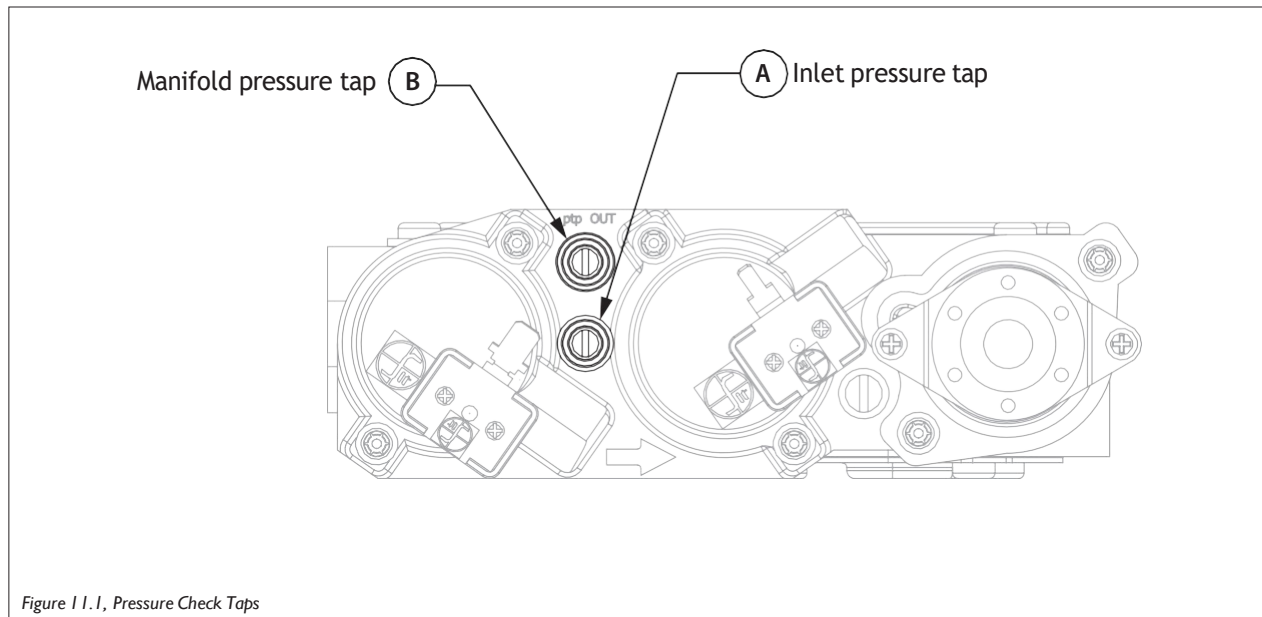

Figure 11.1, Pressure Check Taps
1. Loosen the inlet (IN) pressure tap by turning screw counter-clockwise. See (A) in FIGURE 11.1.
5. Disconnect hose and tighten the inlet (IN) pressure tap by turning screw clockwise. Screw should be snug. Do not over tighten.
6. Relight pilot and burner. Then reattach manometer to the inlet pressure tap (A) to verify the tap is completely sealed. Manometer should read no pressure.
2. Loosen manifold (OUT) pressure tap by turning screw counter-clockwise. See (B) in FIGURE 11.1.
7. Attach the manometer to the manifold pressure tap (B) to verify it is completely sealed. The manometer should read no pressure when pilot and burner are on.